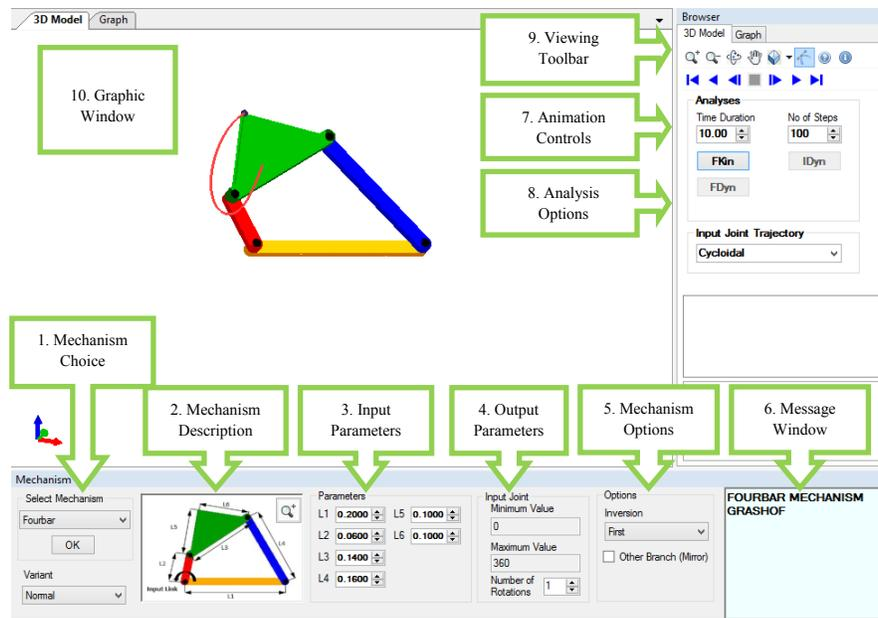

Figure 1: The user interface of Mechalyzer v3.
The version 3 of MechAnalyzer has been presented to the user in such a way that the user can easily get started with it. The user interface of the software as shown in Figure 1, can be divided into the following sections:
- The desired mechanism can be selected from the **Select Mechanism** (refer Figure 1) dropdown menu. The corresponding variant if it applies to the mechanism needs to be selected from the **Variant** (refer Figure 1) dropdown menu.